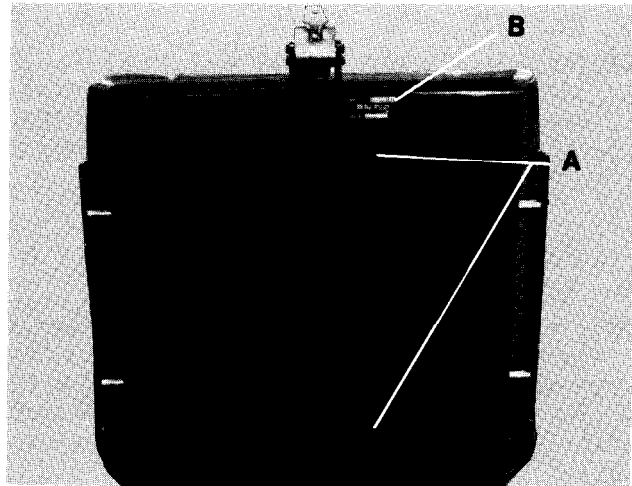
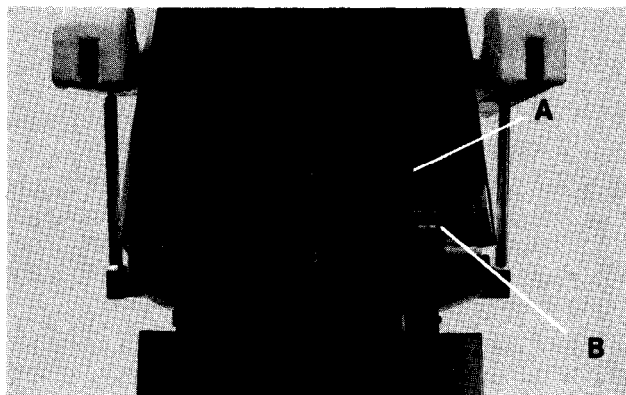

Fig. 4
Fig. 4A
If a part replacement should be required, the part must be ordered direct from the factory. When any part is ordered, a complete description or part number is required, along with Serial Number and date of installation of the table must be supplied. For details of the exchange plan, write the plant. (For location of serial number tags for Model 111 & 114 see Item B, Fig. 4, and for Models 112 & 113 see Item B, Fig. 4A).
- 1) Remove the metal panel from the metal back frame by removing (4) small screws. Item A, Fig. 4.